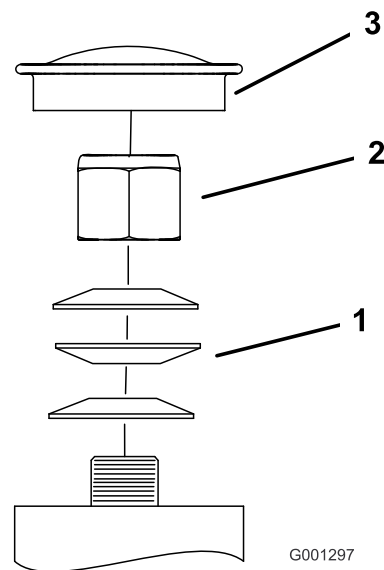

Figure 65
3. Remove the dust cap from the caster and tighten the locknut (Figure 65).
4. Tighten the locknut until the spring washers are flat and then back off 1/4 turn to properly set the pre-load on the bearings (Figure 65).
Important: Make sure that the spring washers are installed correctly as shown in Figure 65.